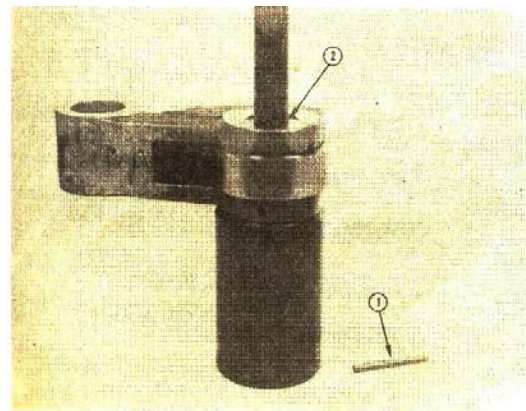

Fig. 4-8. Remove the cam roller pin
7. Remove the roll pins (1, Fig. 4-8) and cam roller pins (2). Remove the rollers from the cam followers.